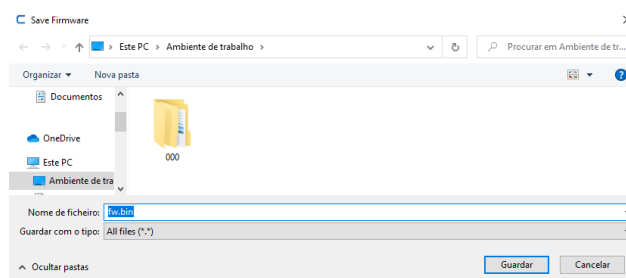

Figure 35 – Save Firmware Location Box
8. The user can download the Nidus software select the “Download” button. One box will appear to select the destination of download (Figure 35).